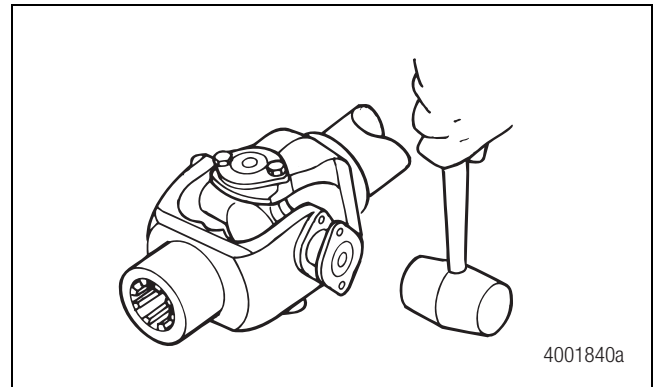

Figure 5.9
3. Hold the cross. Use a copper or brass hammer to lightly tap the bearing cup completely into the yoke bore. Figure 5.9.